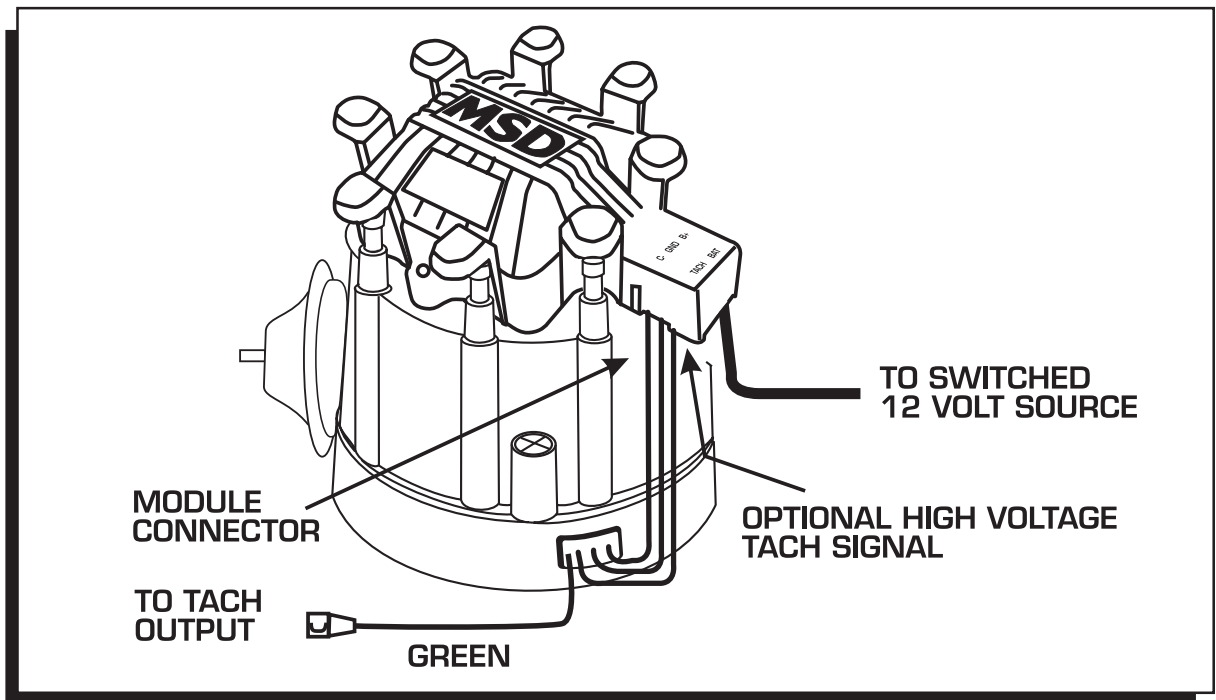

Figure 6 Connecting the Module and Tach Lead.
6. Connect the HEI Module harness to the Distributor Cap. See the Tachometer Wiring section before connecting your tachometer (Figure 6).
7. Connect a 14-gauge (minimum gauge) wire to the Bat terminal of the cap to supply the 12 volts to the HEI system (Figure 6).